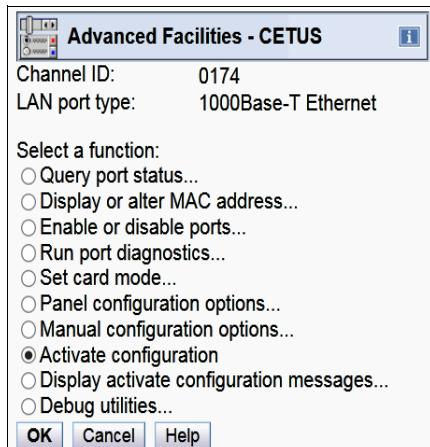

Figure 6-17 OSA/SF on the HMC: Activate configuration
13. To activate your OSA configuration, select **Activate configuration** from the Advanced Facilities window, and click **OK** (Figure 6-17).